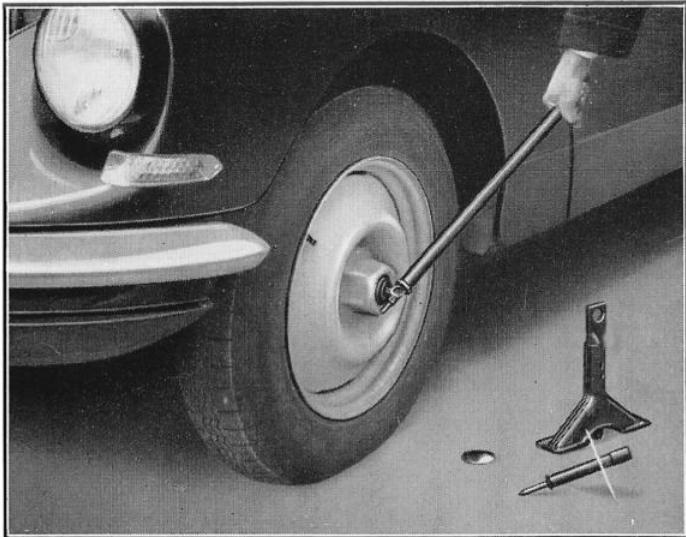

Figure 12
— Unlock the centre screw of the wheel using the long lever. (This lever (fig. 11) is fitted on the crossmember carrying the spare wheel). Use it as shown on fig. 12. At this stage only unlock the screw, do not unscrew it.
- Firmly tighten the centre screw of the wheel using the long lever in the position shown on fig. 12.